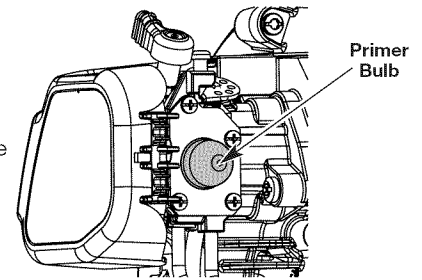

Fig. 14
3. Fully press and release the primer bulb 10 times, slowly. Some amount of fuel should be visible in the primer bulb and fuel lines (Fig. 14). If fuel can not be seen in the bulb, press and release the bulb as many times as it takes until fuel can be seen in it.
- Fully press and release the primer bulb 10 times, slowly. Some amount of fuel should be visible in the primer bulb and fuel lines (Fig. 14). If fuel can not be seen in the bulb, press and release the bulb as many times as it takes until fuel can be seen in it.